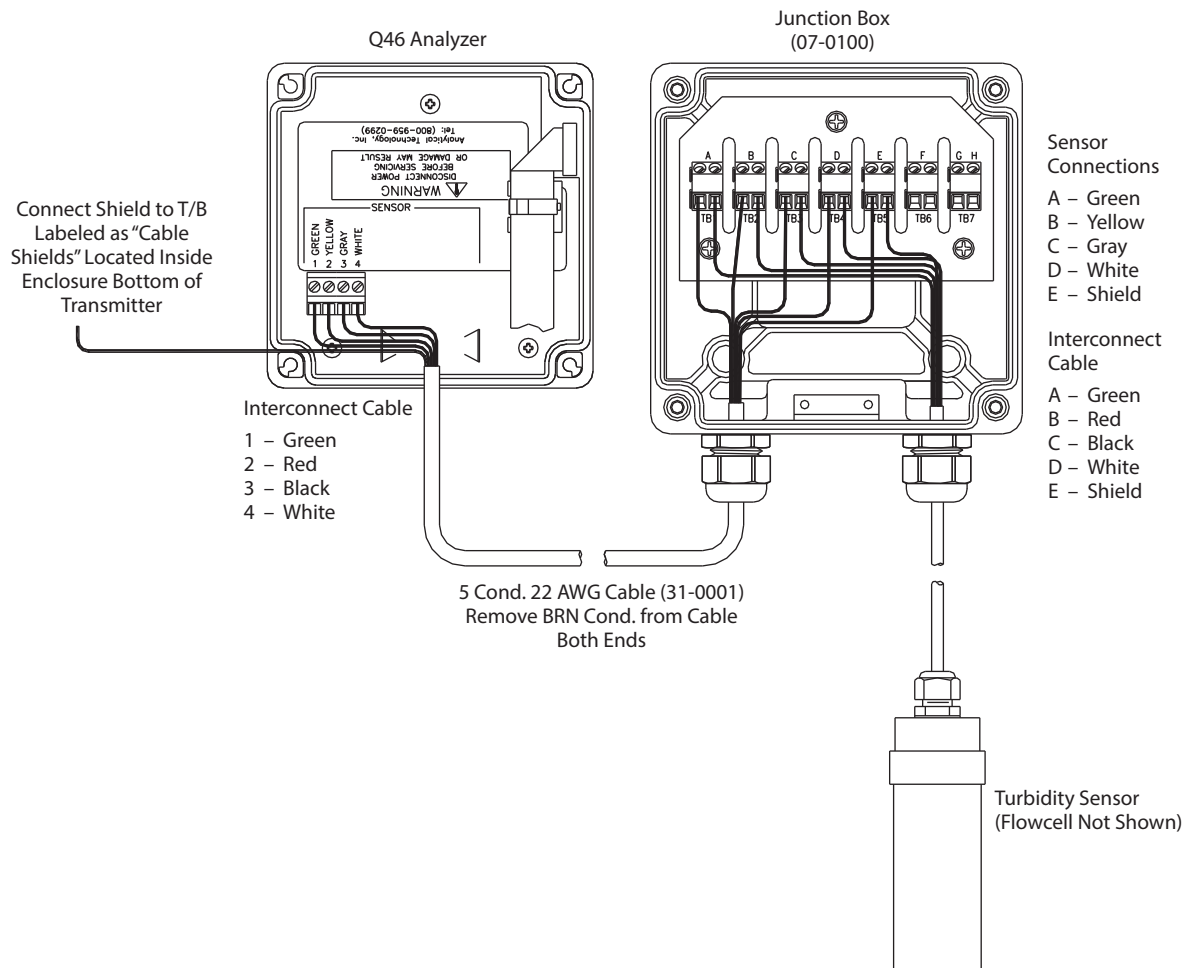

Figure 17: Remote sensor wiring
**NOTE:** The wire used for remote sensor connection does not contain the same conductor colors as the sensor wire. Figure 17 provides the information needed to connect a remote sensor using junction box (07-0100).